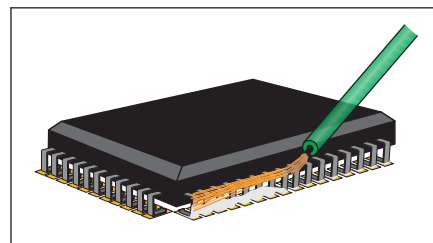

Figure 1 Apply Flux
4. Apply flux to the bridged leads. (See Figure 1.)